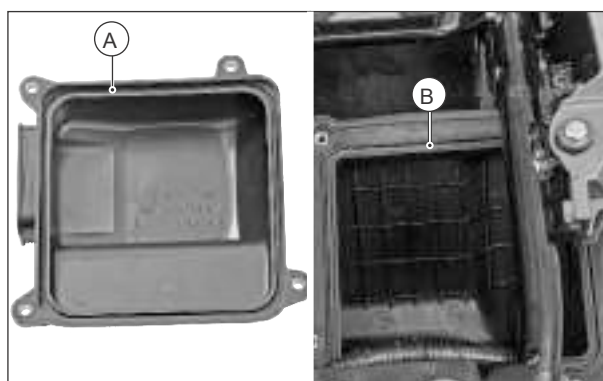

Fig. 2.43
- Inspect and ensure that the cover air cleaner and case air cleaner assembly is clear from any dust, dirt and foreign particles. (Fig. 2.43)